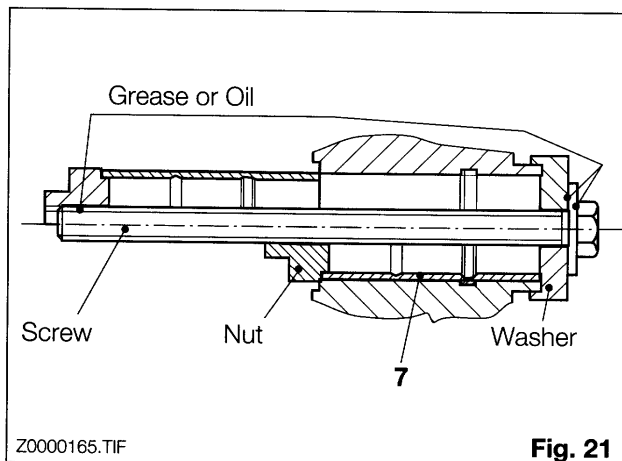

Fig. 21
Draw in new bushing (7) with assembly tool until stop (fig.21)